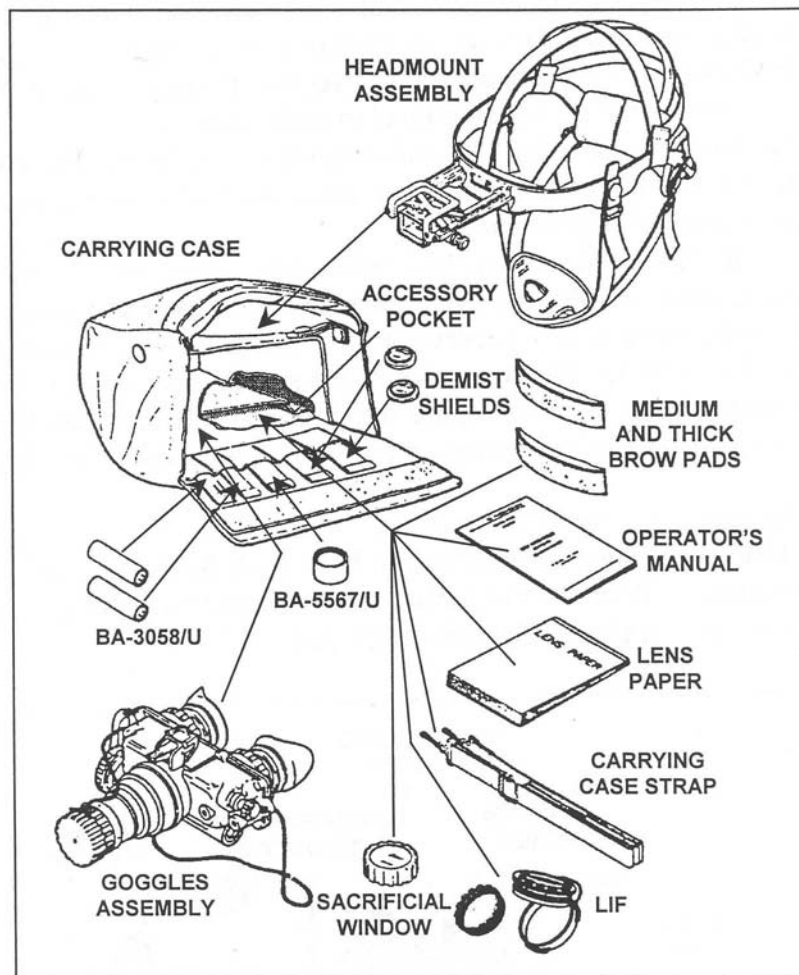

Figure 1. AN/PVS-7B night vision goggles.
1. Inventory the carrying case for the following items (Figure 1).